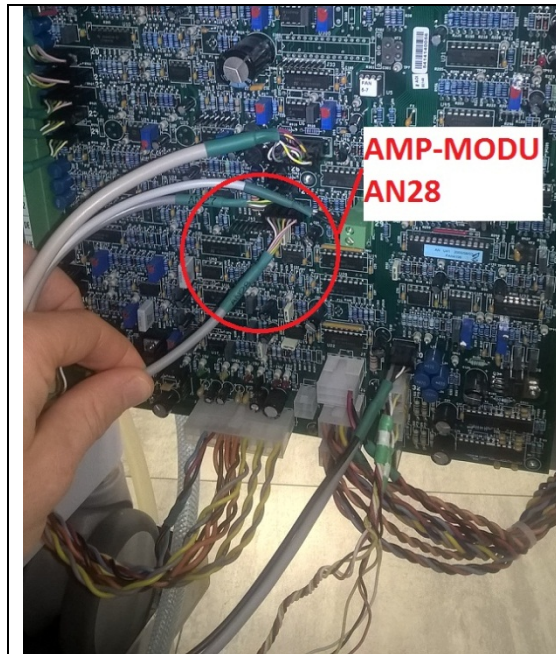
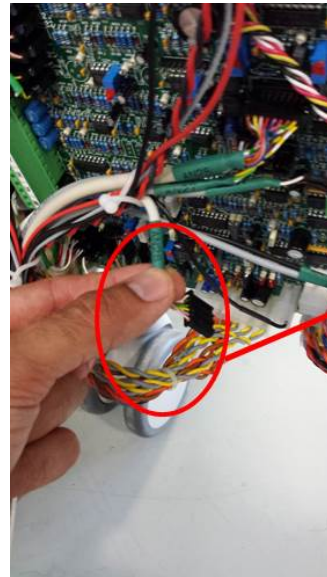

Fig. 22
Fig. 23
23. If not already disconnected, disconnect connect the cable marked as AN28 from the analogic board (**Fig. 22 & Fig. 23**).